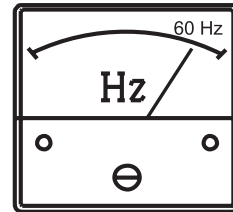

Figure 54. Frequency Meter
5. The generator's **frequency meter** (Figure 54) should be displaying the 60-cycle output frequency in **HERTZ**.